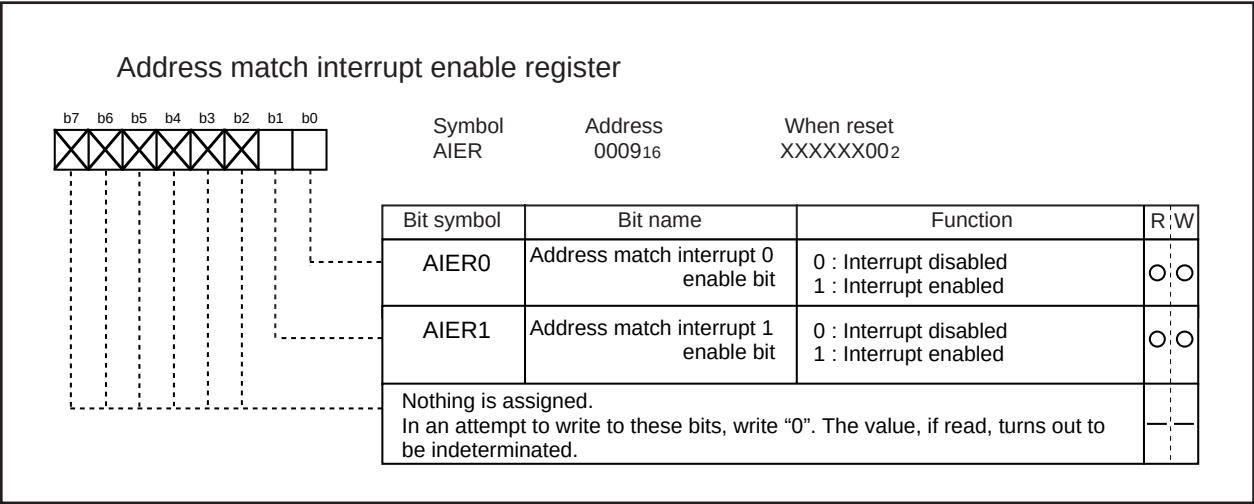

**Figure 2.7.12 Address match interrupt enable register**
An address match interrupt is generated when the address match interrupt address register contents match the program counter value. Two address match interrupts can be set, each of which can be enabled and disabled by an address match interrupt enable bit. Address match interrupts are not affected by the interrupt enable flag (I flag) and processor interrupt priority level (IPL). The value of the program counter (PC) for an address match interrupt varies depending on the instruction being executed. Figures 2.7.12 and 2.7.13 show the address match interrupt-related registers.